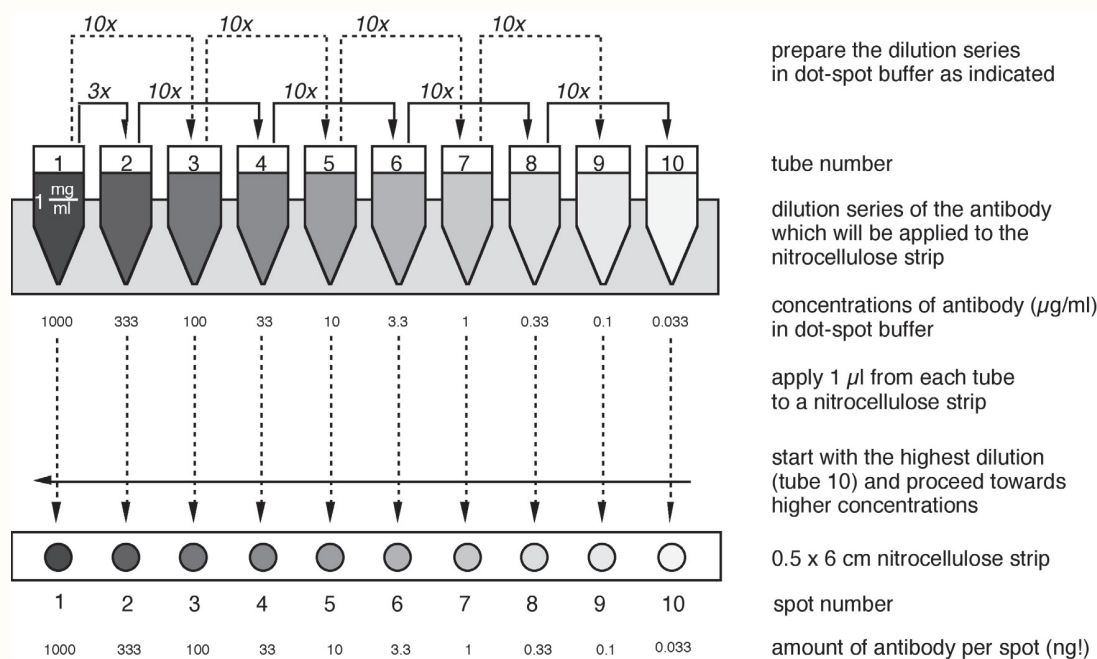

Figure 2: Preparation of an immuno dot-spot strip
- 2a.1. Prepare a dilution series of purified immunoglobulin (e.g. mouse IgG when testing a Goat-anti-Mouse IgG gold conjugate) in dot-spot buffer, as shown in Fig. 2.
- 2b.1. Prepare a dilution series of the primary antibody in dot-spot buffer as described in Fig. 2.
- 3a.1. Prepare a dilution series of the purified antigen in dot-spot buffer as described in Fig. 2.
- 3b.1. Prepare a dilution series of the purified antigen in dot-spot buffer as described in Fig. 2.